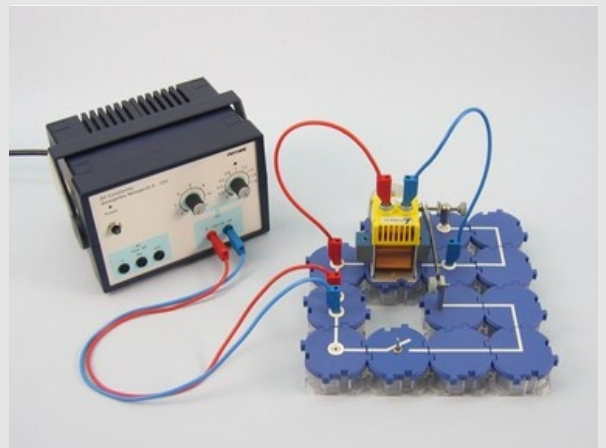

Fig. 2
- Set up the experiment according to Fig. 1 and Fig. 2.